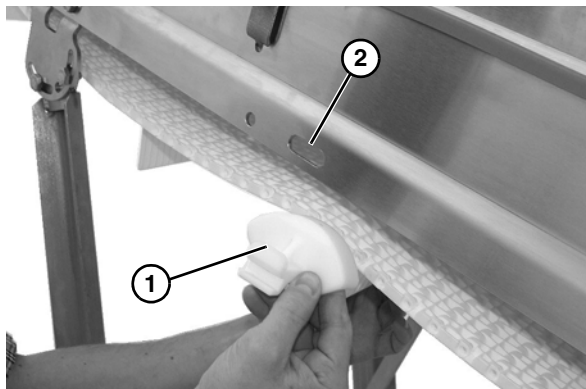

Figure 18
1. Install belt return (**Figure 18, item 1**) into slotted frame hole (**Figure 18, item 2**).